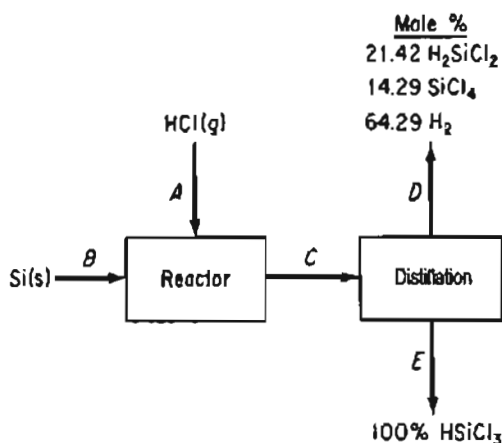

Figure P11.14
- **11.14** Metallurgical-grade silicon is purified to electronic grade for use in the semiconductor industry by chemically separating it from its impurities. The Si metal reacts in varying degrees with hydrogen chloride gas at 300°C to form several polychlorinated silanes. Trichlorosilane is liquid at room temperature and is easily separated by fractional distillation from the other gases. If 100 kg of silicon is reacted as shown in Figure P11.14, how much trichlorosilane is produced?